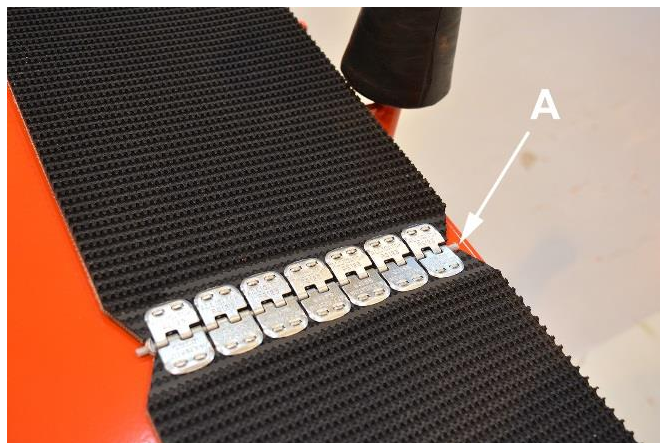

Figure 31.
4. Disconnect the joint by using pliers, for example, to pull out pin A (Figure 31) that holds the joint together.
8. Connect the joint by inserting pin A (Figure 31) into the joint.